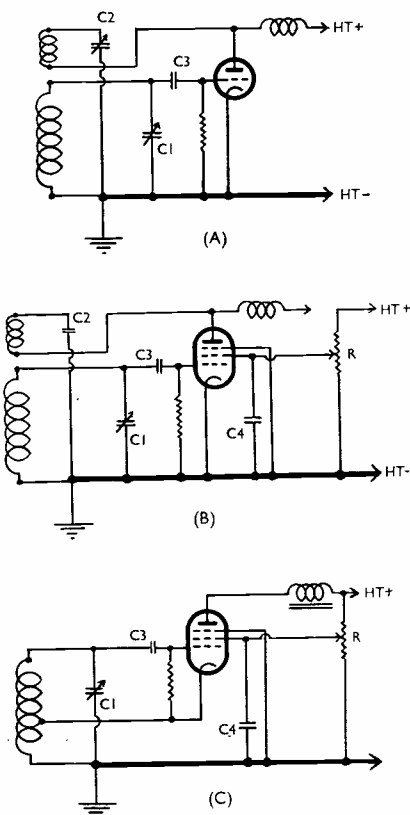

Fig. 6. Three regenerative detector circuits suitable for use in short-wave receivers of the "straight" type.
While on the subject of reaction or feedback circuits it is of interest to examine other suitable arrangements, of which the three principal ones are shown in Fig. 6. It should be mentioned in passing that band-spread tuning is not indicated in these circuits, in the interests of simplicity; there is, however, no difficulty in making the slight modification necessary to incorporate it. The circuit shown at (A) is conventional, and is similar to that used in broadcast receivers; in fact, the only difference is in respect of component values. At (B) is shown a circuit very similar to that in Fig. 3, but feed-back is from the anode instead of the screening grid. Circuit (C) employs cathode reaction coupling, which is also known as electron coupling; the arrangement is very similar to that used in Fig. 4. Other information regarding these reaction circuits is given in the caption. All are interchangeable, and any of them may be employed in the full circuits given in Figs. 3 and 4.
Suggestions regarding suitable valve types for Figs. 3 and 4 are given in the caption to Fig. 4, but it will be understood that there are many other types which can be used with equally good results. For example, the 210 SPT valve specified for use in the detector stage of the battery receiver could well be replaced by the VS 24/K, which is an RF tetrode specially designed for short-wave use. Alternatively, the HL 2/K triode could be employed by adopting the reaction circuit shown at (A) in Fig. 6. This also is intended for short-wave use and has a special electrode construction; for that reason it is preferable to many other types. The 6J7 specified for the mains version is a special short-wave valve, but it could well be replaced by a VP4B tetrode or a ZA1 acorn pentode. It is not possible to make specific recommendations at present, when valves of most types are in such short supply; to a large extent, therefore, one must be governed by the availability.